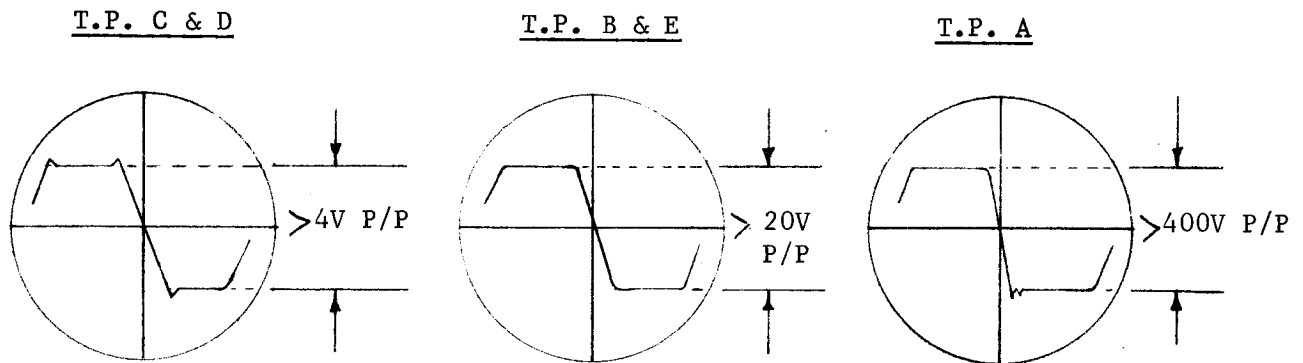

Figure 3
- B. Determine that the proper waveshapes are obtained as shown in figure 3 (Set scope time base to produce one cycle.)